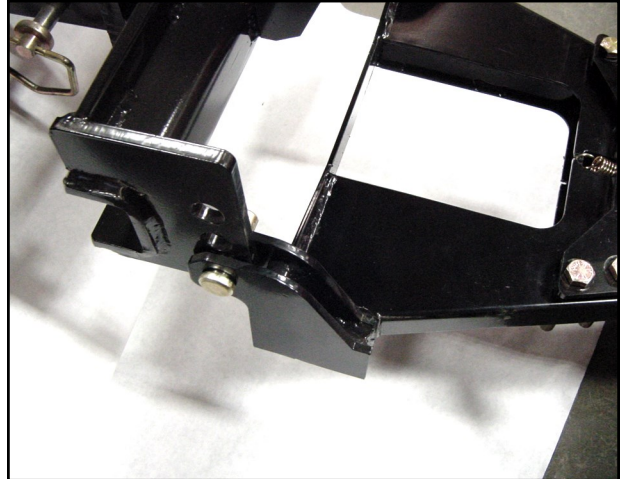

Fig. 14.1 A-Frame and Lift Frame Mounting Tabs
- 14.2 Place the Rear Outer Tabs of the A-Frame on both sides of the Lower Outer tabs on the Lift Frame. Insert 3/4" x 2" long clevis pins into holes. Do not pin in place until final alignment with vehicle. Per Figures 14.1 and 14.2